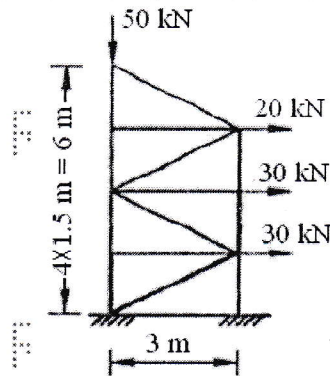

Figure: 3
5. Calculate the forces exerted in the truss structure shown in figure 3. [15]